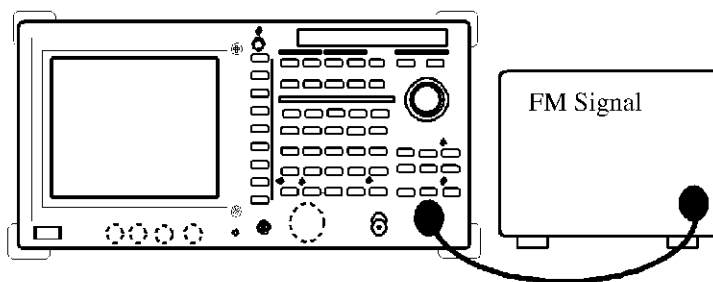

Figure 2-1 Connections for Measurements
1. Connect the instrument as shown in Figure 2-1.